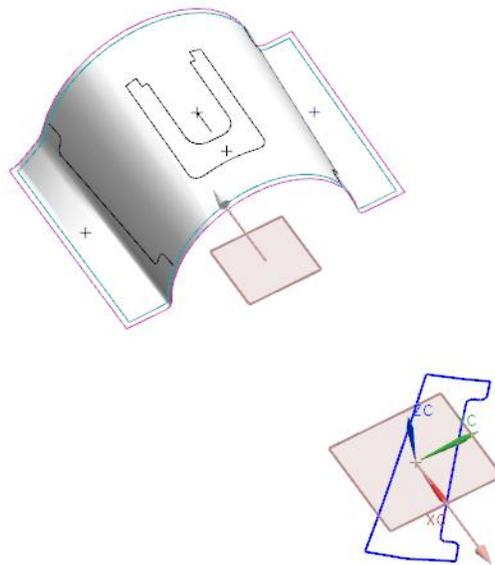

Figure 3–57
3. The Flat Pattern updates, as shown in Figure 3–57. Note that it is now flipped in the correct direction, aligned with the ply boundary direction.